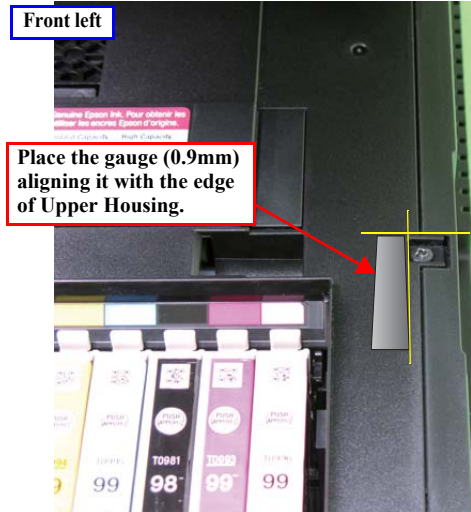

Figure 5-20. Placement of the Thickness Gauge
5. Place the thickness gauge 0.9mm on the location described in *Figure 5-20*.